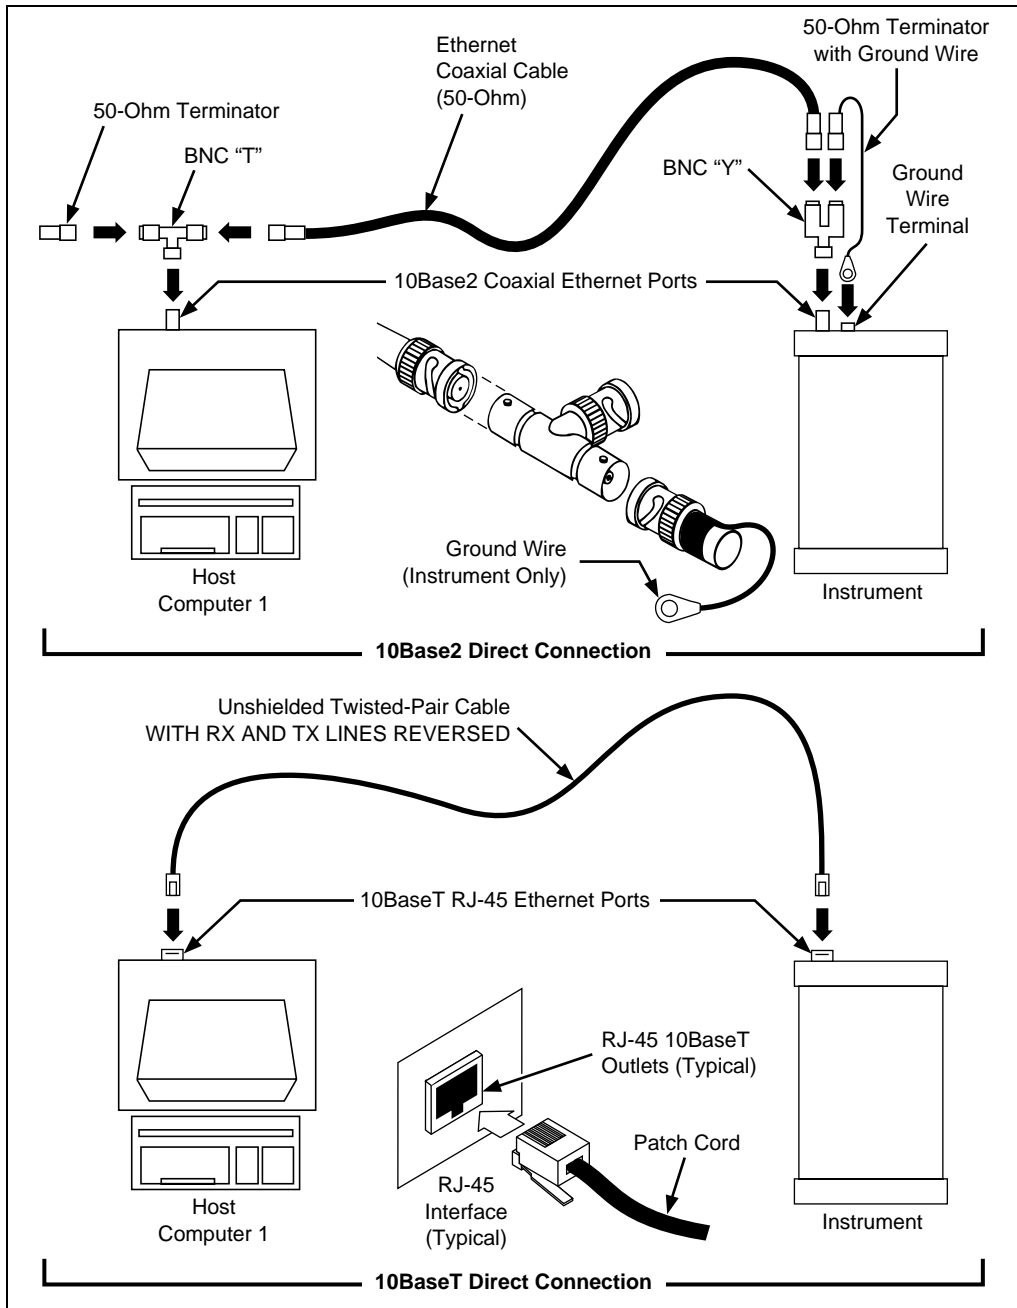

Figure 2-32. Host Computer/Instrument Direct Connection
You can connect a single instrument directly to a host computer using 10BaseT cable, but you must use a special cable that has its transmit and receive lines crossed. The crossed lines allow each end to transmit to the receive terminal at the other end. See Figure 2-32 and “*Interconnection Using 10BaseT (Twisted Pair) Ethernet Wiring*”.
3. Connect 50-Ohm terminators to the BNC T and Y end points. Be sure you have installed 50-Ohm terminations even if there is a direct connection between the host computer and a single instrument. The instrument 50-Ohm terminator at the network endpoint has a ground wire that is connected to the instrument ground terminal (adjacent to the BNC connector) only when there is no other shield ground connected for the network. (See Figure 2-32.)
Direct connection between a single host computer and a single instrument with 10BaseT is possible, but you must use a special cable that has its transmit and receive lines crossed. (See Figure 2-32.)